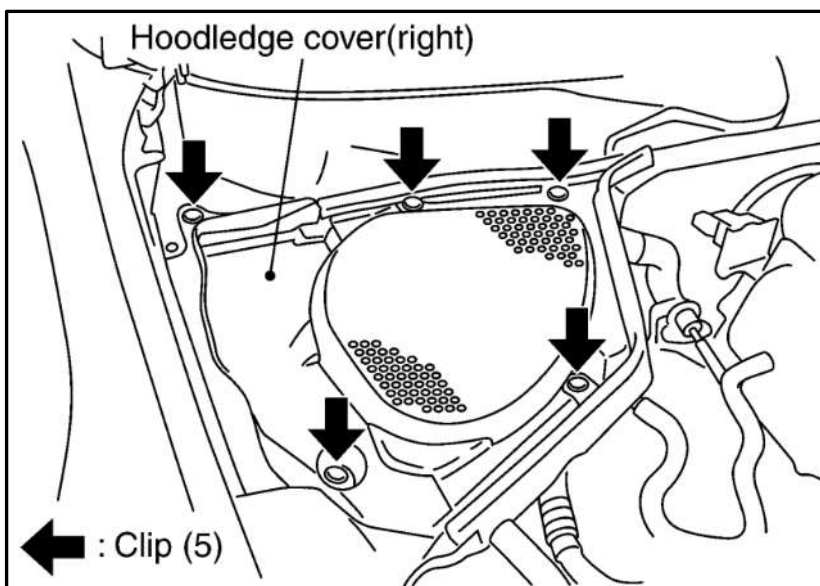

Figure 35
2. Install the (3) three 6AN ORB fittings on the bottom and sides of the Regulator. Remove the plug on the front of the Regulator and install the provided Fuel Pressure Gauge with Thread Sealant.
3. Remove the passenger side plastic battery cover and cowl trim piece. Then remove the white plastic clip on the back of the firewall, shown below with a yellow arrow. Use pliers to pinch the nubs and push towards the rear of the vehicle to remove it from the firewall. *Figure 35*.